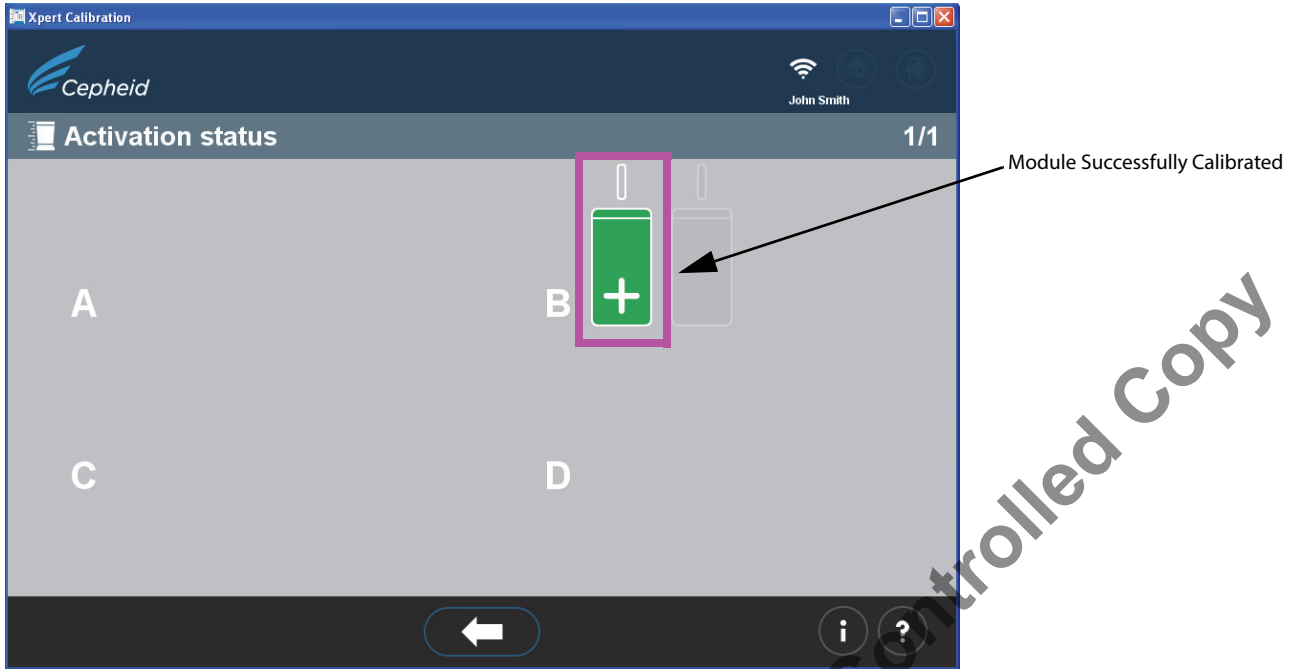

Figure 46. Activation Status Screen
- g. The **Activation status** screen will appear. See Figure 46. In the **Activation status** screen, the successfully calibrated modules are indicated by a “+” sign on a green module.